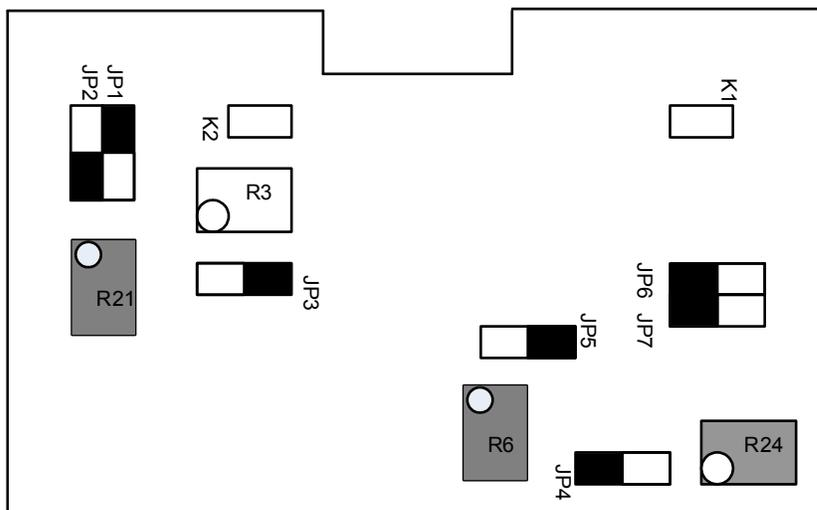

Figure 2. Jumper settings for voltage setpoint calibration using on board regulator voltages for PAVREF and ERREF.
1. On the evaluation board remove jumper K2 and connect jumpers JP2 and JP4 to position B and connect jumpers JP1 (connected as shown in black box), JP3, JP5, JP6 and JP7 to position A as shown in figure 2.